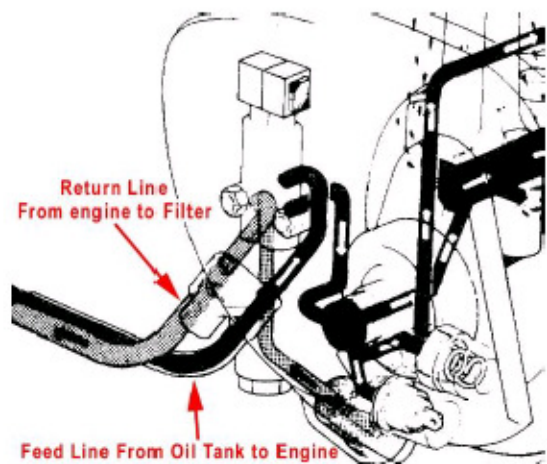
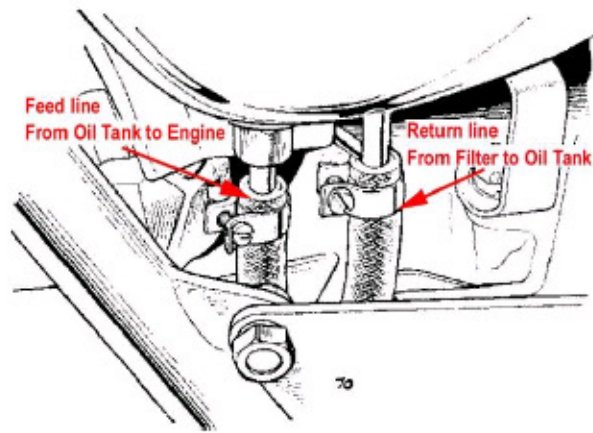

Fig. 1
Fig. 2
- 1- Place a drain pan under the bike, disconnect the oil return line from the engine and let it drain. See Fig.1. Next remove the return line from the oil tank. See Fig 2. Save the hose clamps to use on the new hoses.